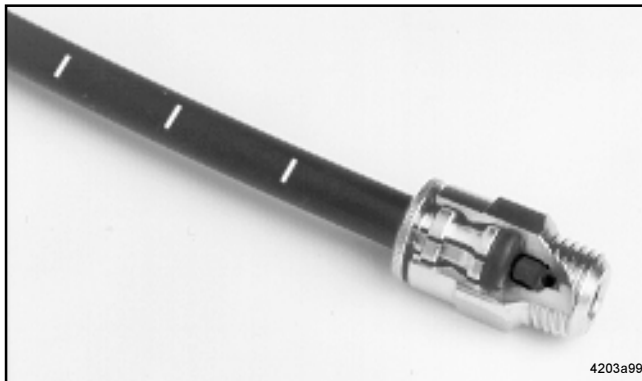

Fig. 8 Feed line installed in the Quicklinc fitting
- Note: Push the end of the line firmly into the Quicklinc fitting until it is fully seated in the body. The primed feed lines (dia. 6x1.5 mm) are marked with white lines (Fig. 8, 9) as an installation aid.*